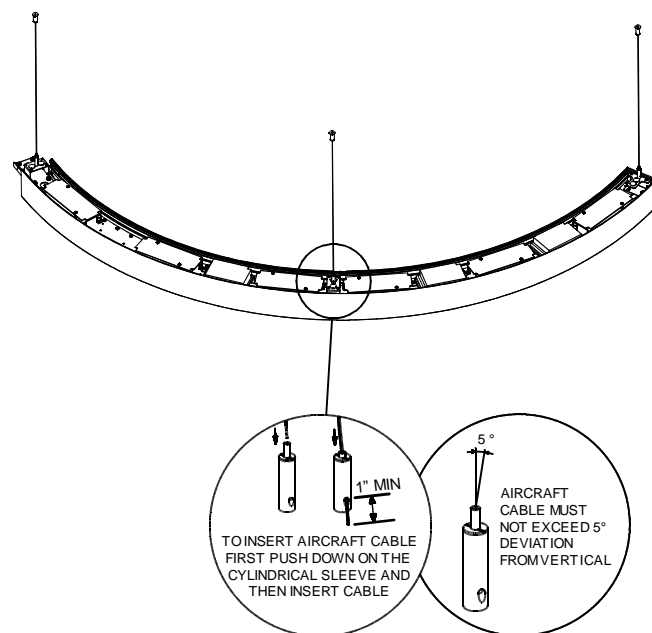

Fig. 5
21. Re-check the level of the entire fixture and adjust aircraft cables as nessesary. Trim excess aircraft and power cables (Fig. 5).